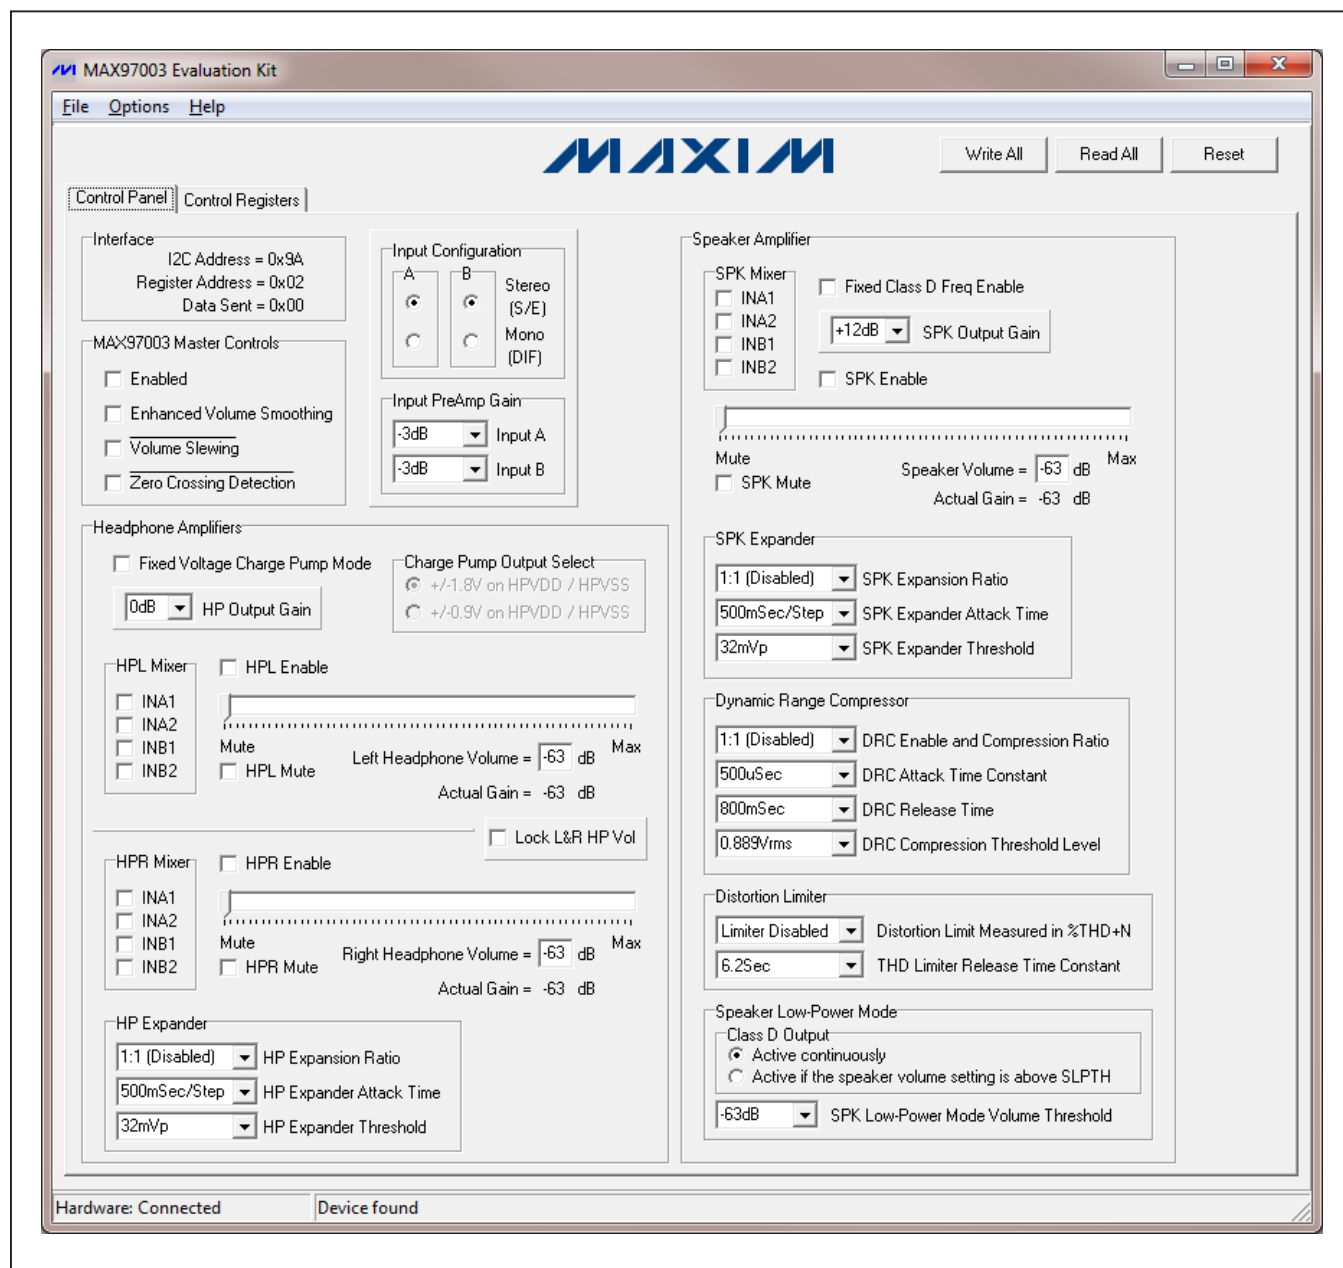
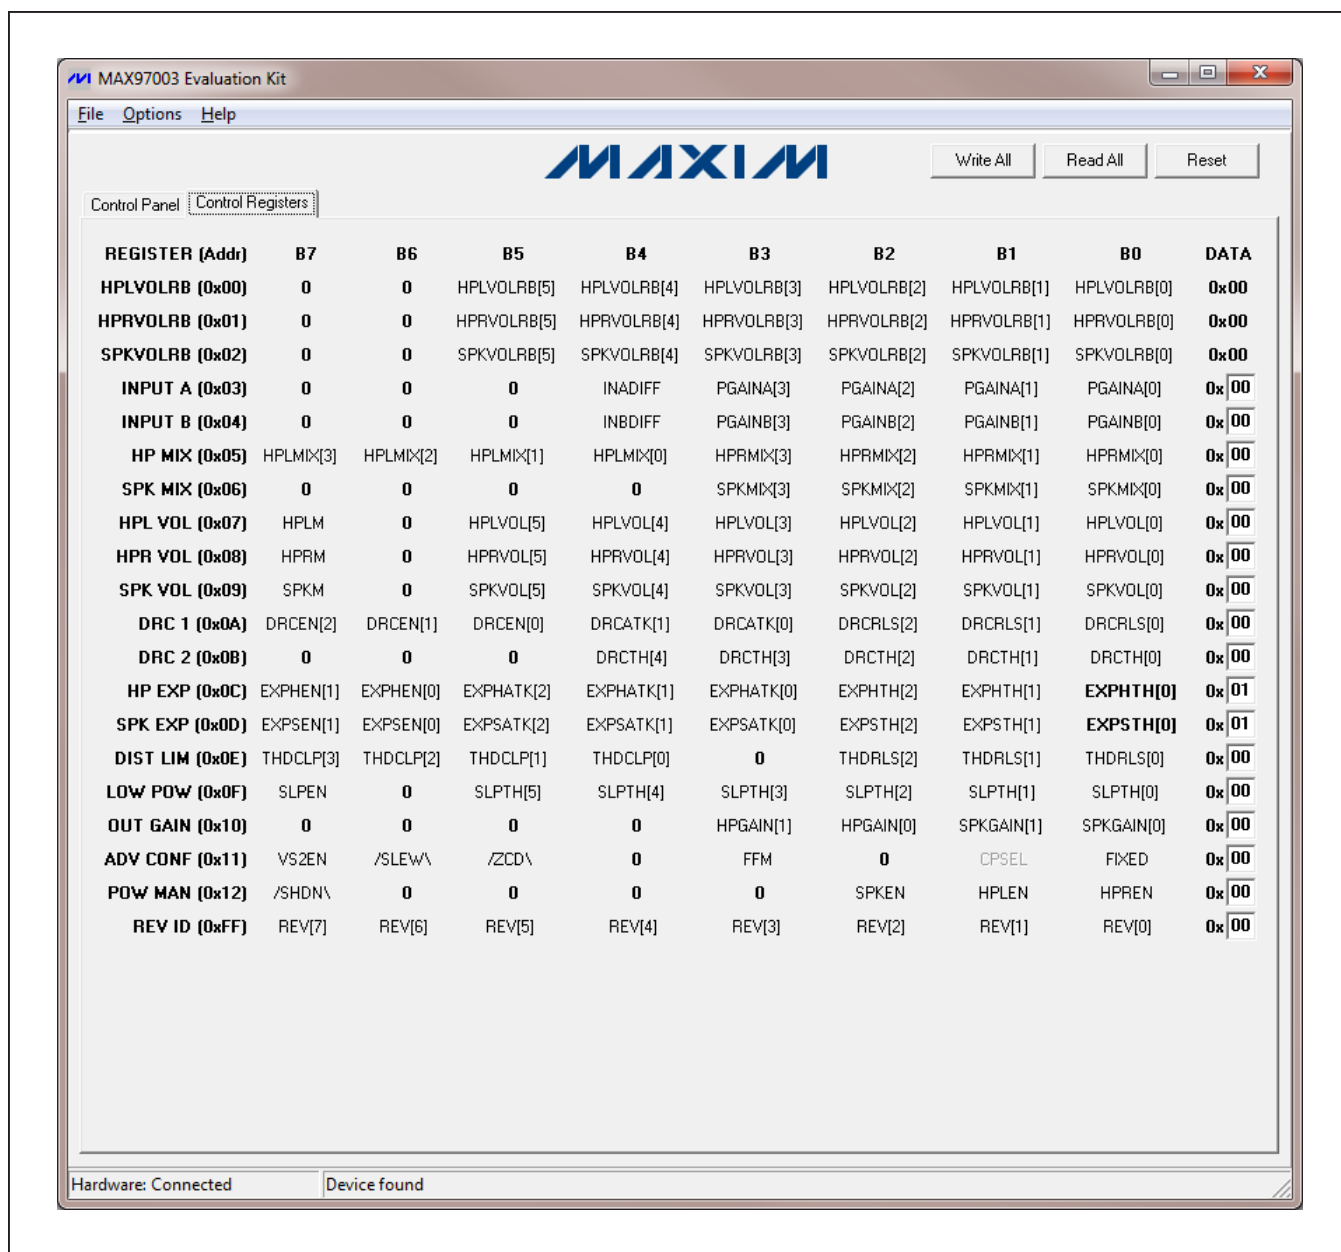

Figure 2. MAX97003 EV Kit Software Main Window (Control Panel Tab)
Figure 3. MAX97003 EV Kit Software Main Window (Control Registers Tab)
- 11) Start the EV kit software by opening its icon in the **Start | Programs | Maxim EVKIT Software** menu. The EV kit software main window appears, as shown in Figure 2.
The MAX97003 EV kit software GUI provides a convenient way to test the features of the MAX97003. Figure 2 displays the EV kit software's Control Panel tab sheet, while Figure 3 displays the Control Registers tab sheet. Actions on either of these two tabs generate I²C commands to update the device's internal memory registers.